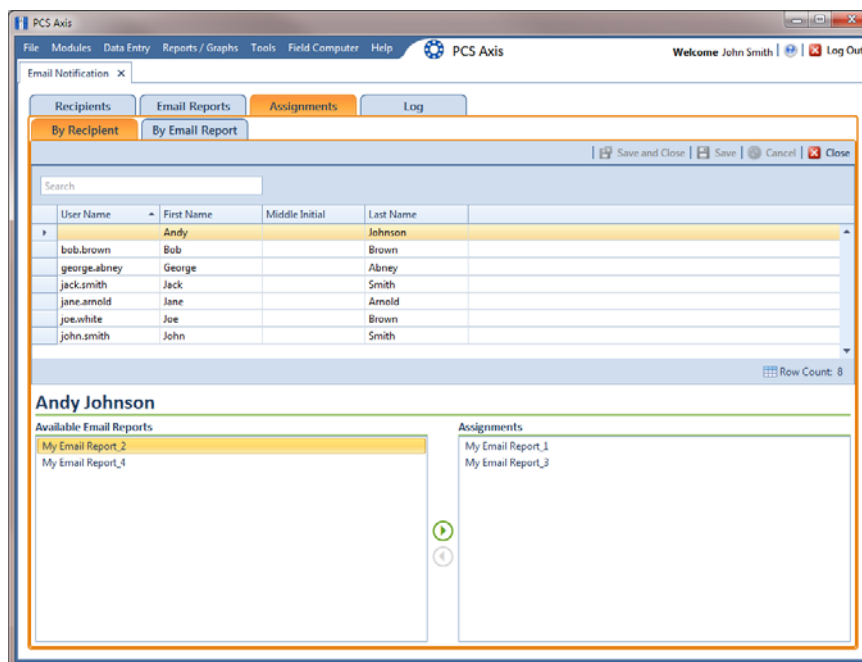

Figure 11-12. Assignments By Recipient
- a Click **By Recipient** **By Recipient** if it is not selected (Figure 11-12).